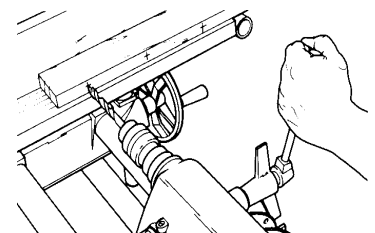

Figure C-35
5. Turn on the Mark V, set the speed, and feed the bit into the stock. See Figure C-35. When boring deep holes, it will be necessary to retract the bit now and then to clear chips from the hole. When you feel the depth control stop the quill, retract the bit. Set the speed dial to "Slow" and turn off the machine. Let it come to a stop, then remove the stock.